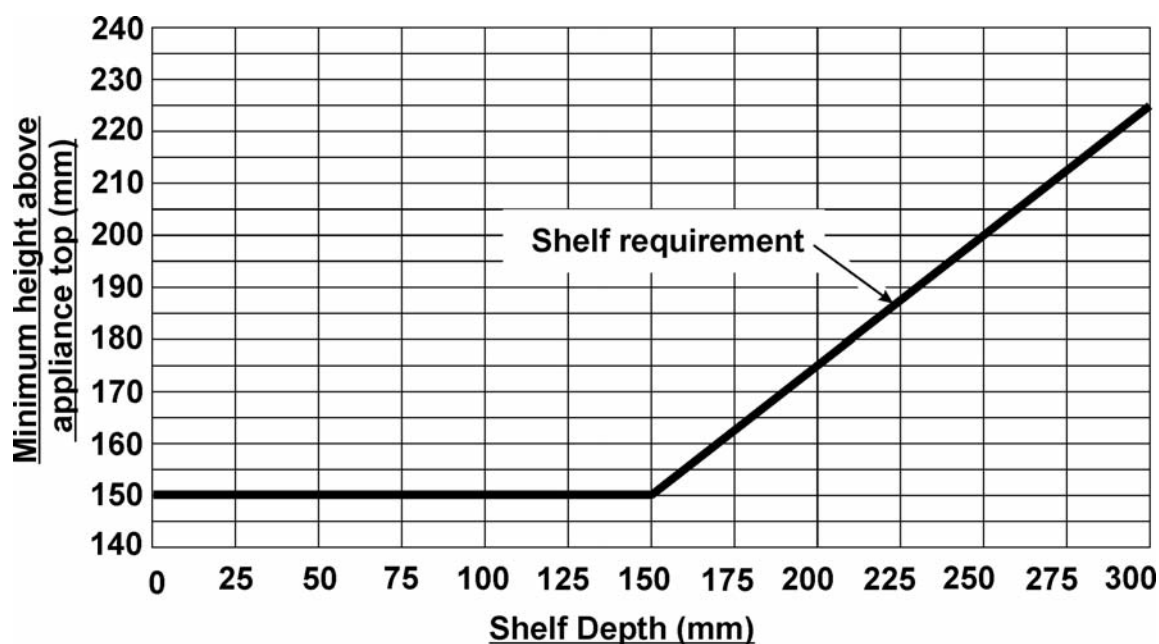

Figure 1. Combustible shelf clearances.
**Do** provide a minimum clearance of 150mm from the extreme top surface of the fire to any shelf made of wood or other combustible material where the shelf is not more than 150mm deep. For a shelf deeper than 150mm, add 12.5mm to the clearance for every 25mm of additional shelf depth (See figure 1)